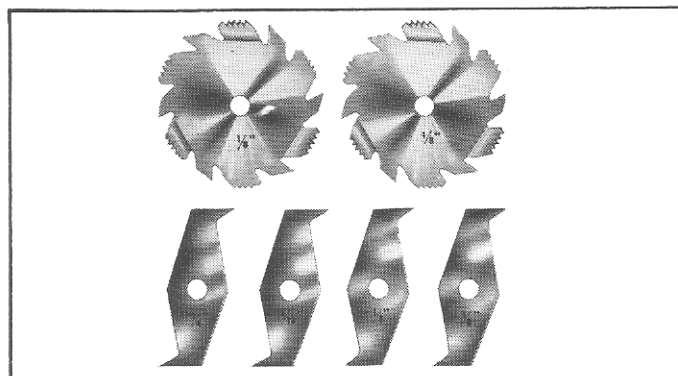
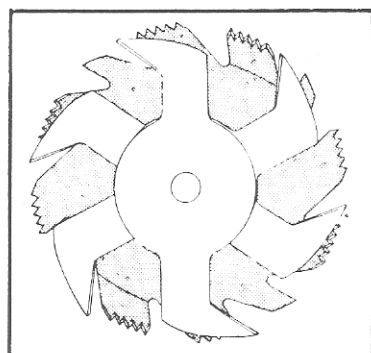
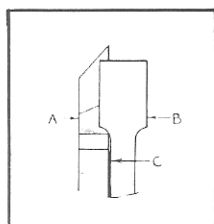

Fig. 41
Fig. 42
Fig. 43
Dadoing is cutting a rabbet or a wide groove into the work. Most dado head sets are made up of two outside saws and four or five inside cutters, as shown in Fig. 41. Various combinations of saws and cutters are used to cut grooves from 1/8" to 13/16" for use in shelving, making joints, tenoning, grooving, etc. The cutters are heavily swaged and must be arranged so that this heavy portion falls in the gullets of the outside saws, as shown in Fig. 42. The saw and cutter overlap is shown in Fig. 43, (A) being the outside saw, (B) and inside cutter, and (C) a paper washer or washers which can be used as needed to control the exact width of groove. A 1/4" groove is cut by using the two outside saws. The teeth of the saws should be positioned so that the raker on one saw is beside the cutting teeth on the other saw.